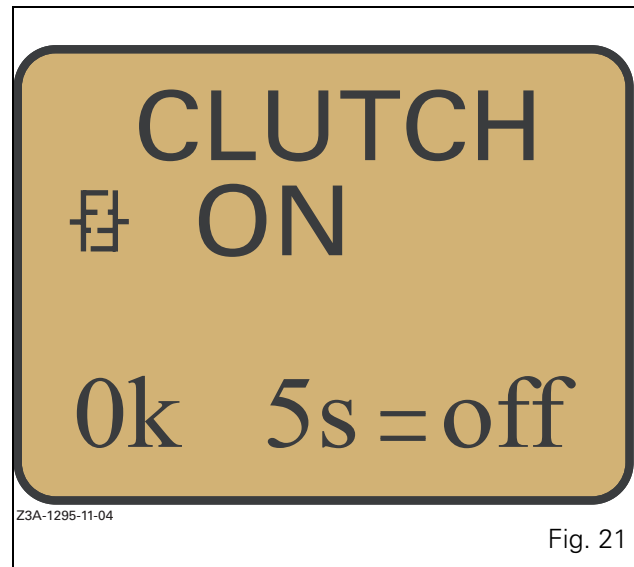

Fig. 21
*NOTE: To activate (Fig. 21) or deactivate (Fig. 22) the coupler function, move the PowerShuttle lever to neutral, fully press down the clutch pedal and press the OK button for 5 seconds.*